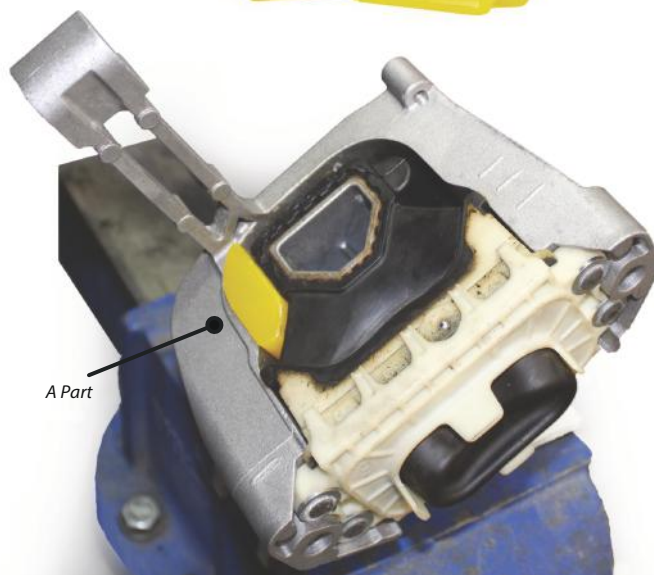

Figure 1
3. Hold the mount securely and insert Part A into the left-hand void present at the rear of the mount as shown in figure 1.